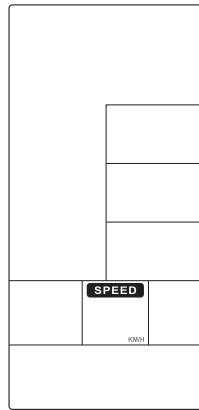

FIGURE 50
1. Hold the START key (KEY 8) and ENTER (KEY 19) for 2s, an audible alert will sound. SPEED will light up and can change between m / h, km / h (miles per hour or kilometers per hour) (Figure 50 ~ 51).